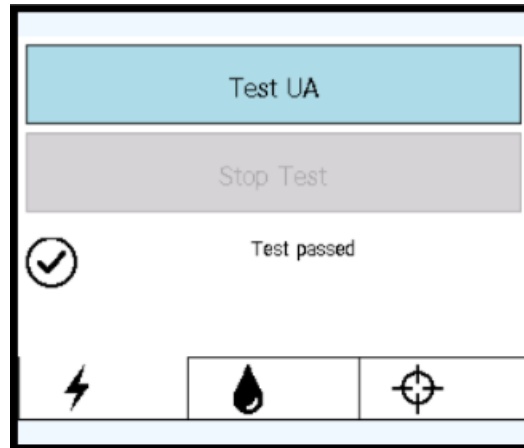

Figure 14: RF tab on PSIB display after successful RF connectivity test
- c. In the **RF** tab of the PSIB display (*Figure 14*), click **Test UA**.
When the RF connectivity test is complete, the PSIB will display a short message (*Figure 14*). You can see detailed RF connectivity test results in the RF information box of the TDC software (*Fig-*